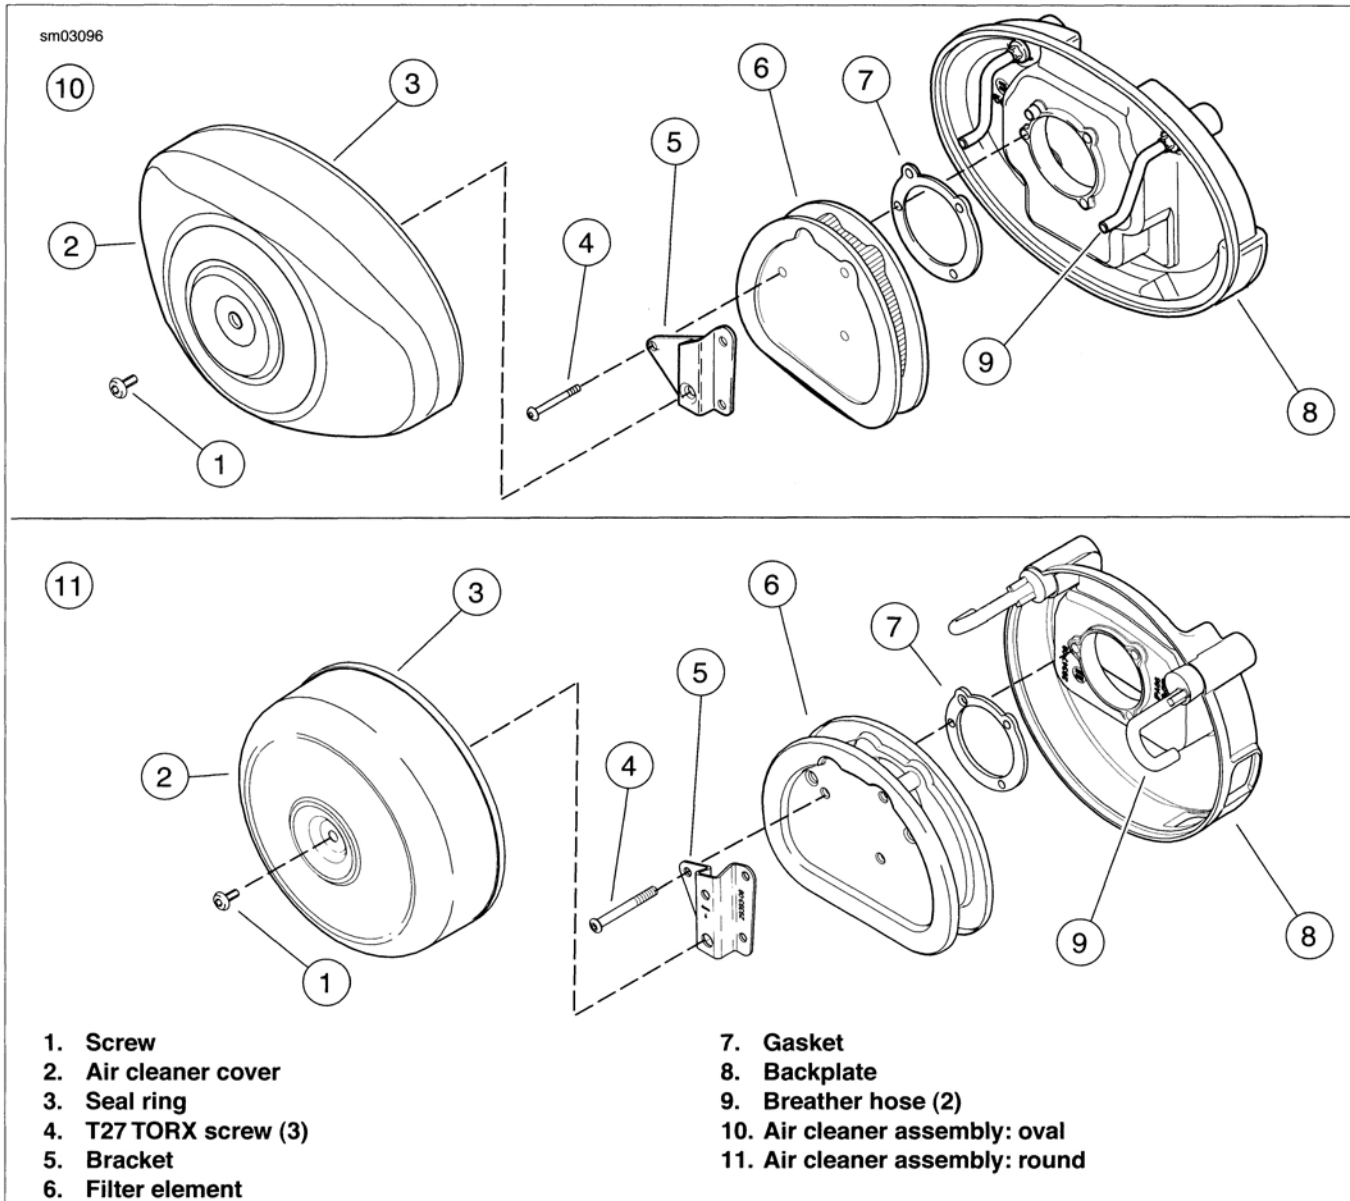

Figure 1-6. Air Cleaner Assembly
1. See Figure 1-6. Remove screw (1) and air cleaner cover (2).
2. Remove three TORX screws (4) and bracket (5) from filter element (6).
3. Gently pull both rubber breather hoses (9) from the element. Remove filter element (6) and gasket (7).
4. See Figure 1-6. Install air filter element and bracket.
- b. Use three TORX screws (4) to secure bracket and filter element. Tighten to 40-60 **in-lbs** (4.5-6.8 Nm).
5. Install air filter cover (2).
- a. Apply a drop of LOCTITE THREADLOCKER 243 (blue) to threads of air cleaner cover screw (1).